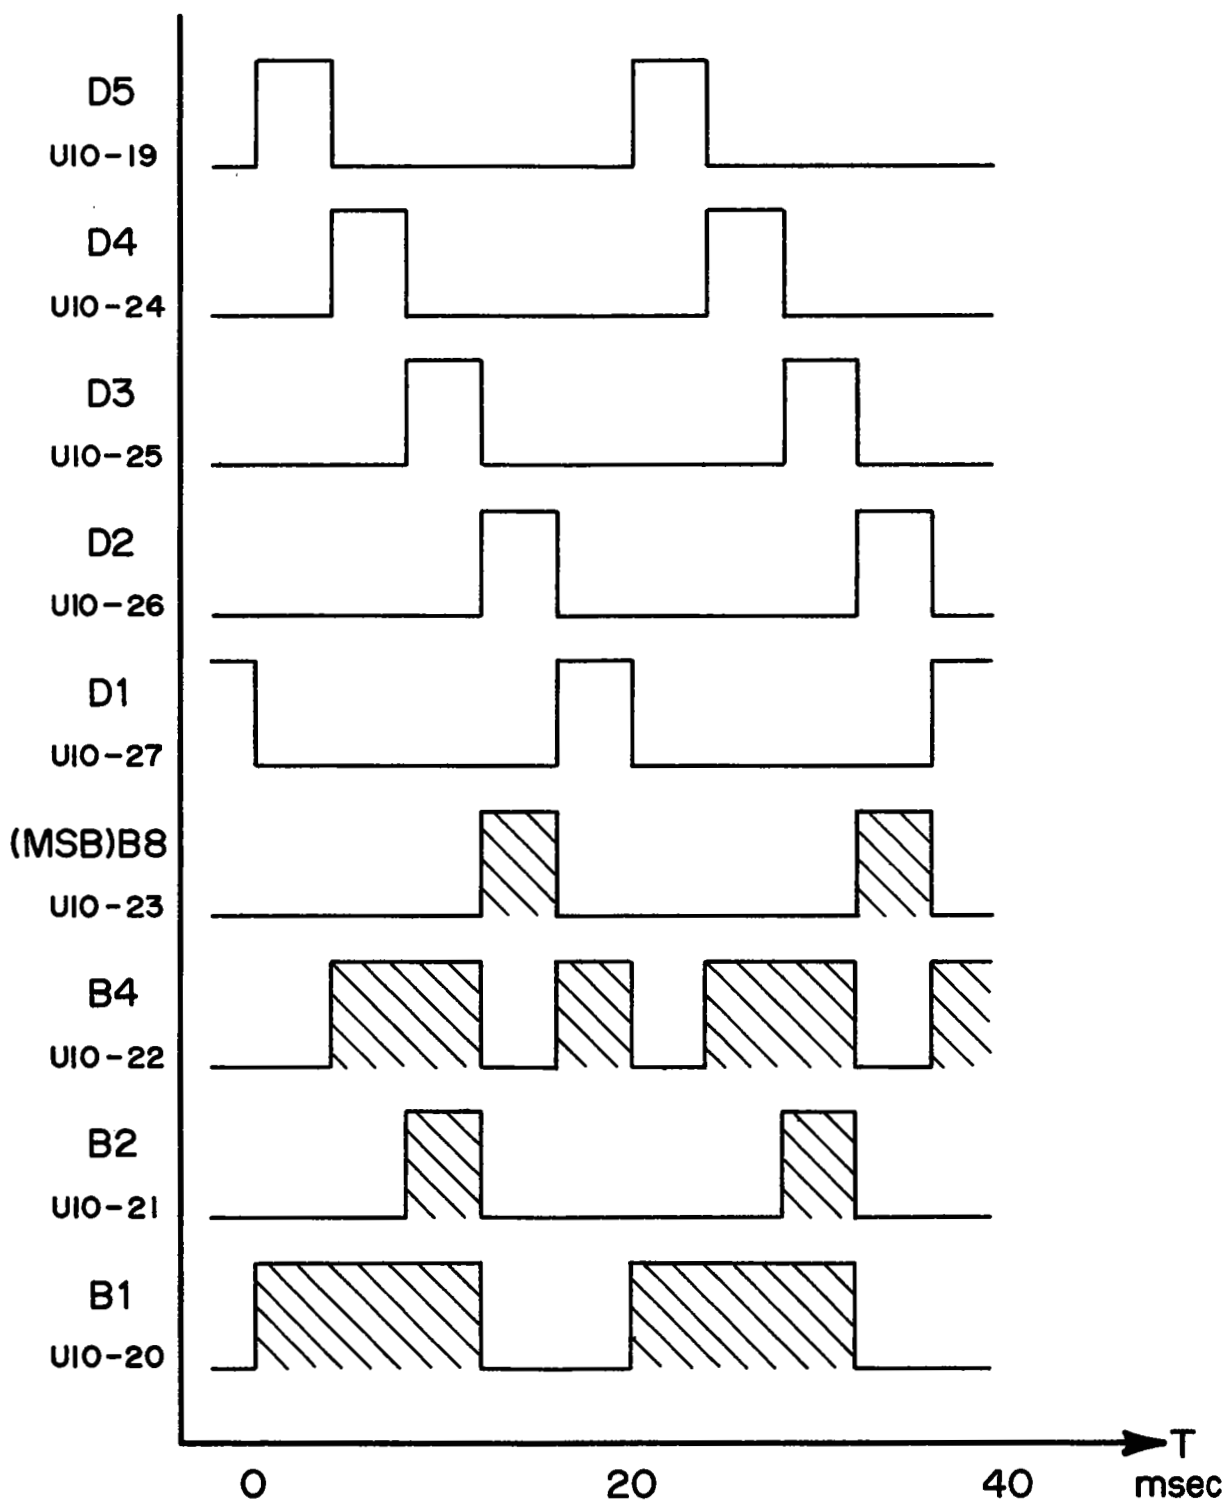

Figure 5.1 DRC-80 A/D Typical Output Signals
- 2) Check for the waveforms at the following pins and refer to Fig. 5.1 for waveforms.
DRC-80 Signals Associated with Figure 5.1
| d) A/D Outputof U10                | The digit drives (Pins 19, 24, 25, 26, and 27) are positive going pulses and last for 200 clock pulses. The scan sequence is D5 (MSD), D4, D3, D2, and D1 (LSD). The BCD pins (pins 20-23) are positive going signals that go on simultaneously with the digit device. If not present, and signals a), b), and c) are correct, replace U10. | See Figure 5.1 on following page  |